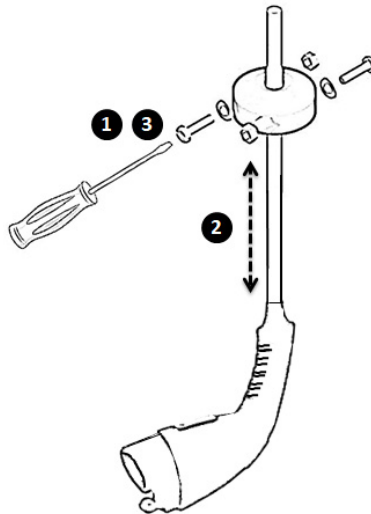

Figure 2-6 Cable Stop Adjustment
- After the EVOREEL cable guide brackets are adjusted, adjust the Cable Stop to extend the Charging Plug/Connector to the desired height (Note: For public installations, to meet ADA reach requirements, the Charging Plug/Connector height should not exceed 48 inches from the Ground when the cable is fully retracted). Referring to Figure 2-6, adjust the Cable Stop by loosening the Cable Stop Screws (Step 1), moving the cable stop to the desired position (Step 2) and then fastening the screws to secure the Cable Stop (Step 3).